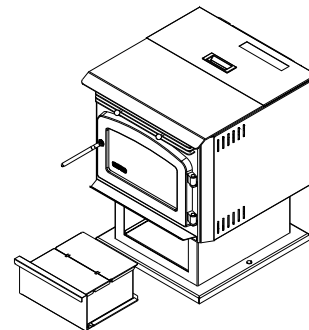

Figure 19
- f. Periodically remove and empty the ash drawer (see Figure 19) in the pedestal below the ash lip. Dispose of ashes properly.